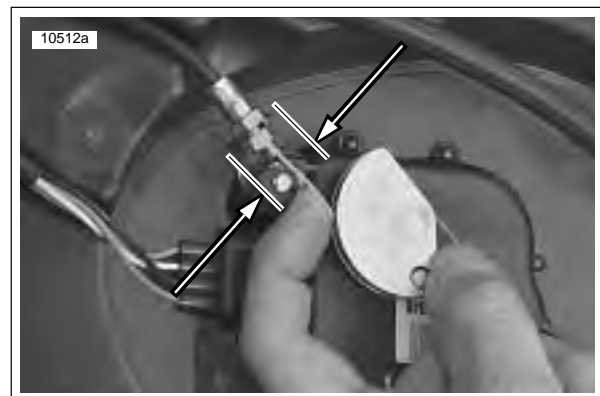

Figure 1-49. Checking For 1/8 in. (3.2 mm) Maximum Free Play In Either Direction For Proper Adjustment
9. See Figure 1-49. Adjust interactive exhaust cable as follows: